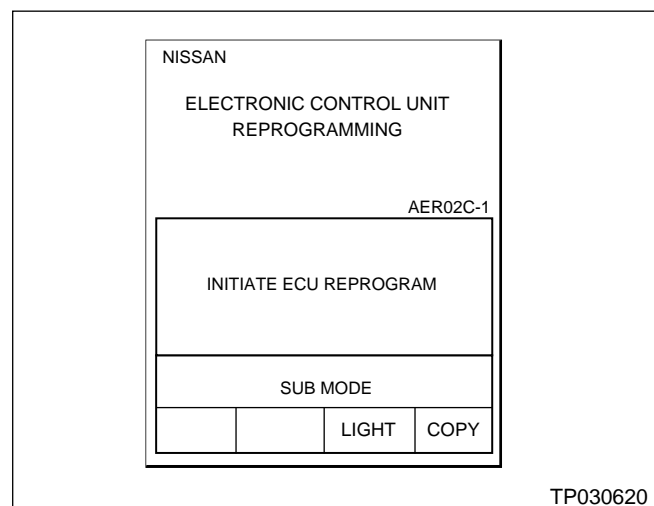

Figure 11
- CONSULT-II will turn "ON" automatically (see Figure 11).
17. Press **SUB MODE** (see Figure 11) then: